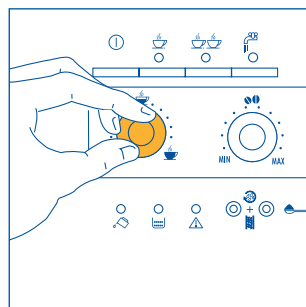

Fig.8
- 3) Adjust the coffee quantity selector dial (Fig. 8) to set the quantity of coffee required. Turning the knob clockwise makes a longer coffee. When using the machine for the first time, the correct position of the knob can be found by trial and error.